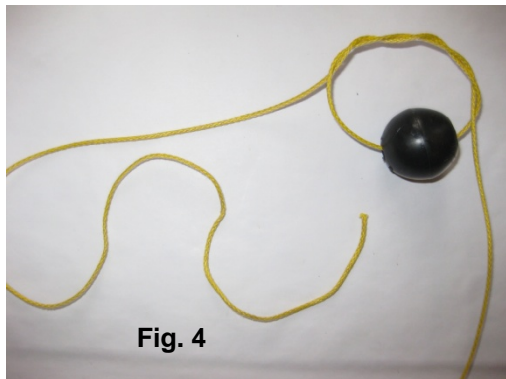

Fig. 4
1. Feed the throw line through the Retrieval Ball and tie a surgeons (3 turns min.) knot approximately 18 " from the end of the throw line (Fig. 4).